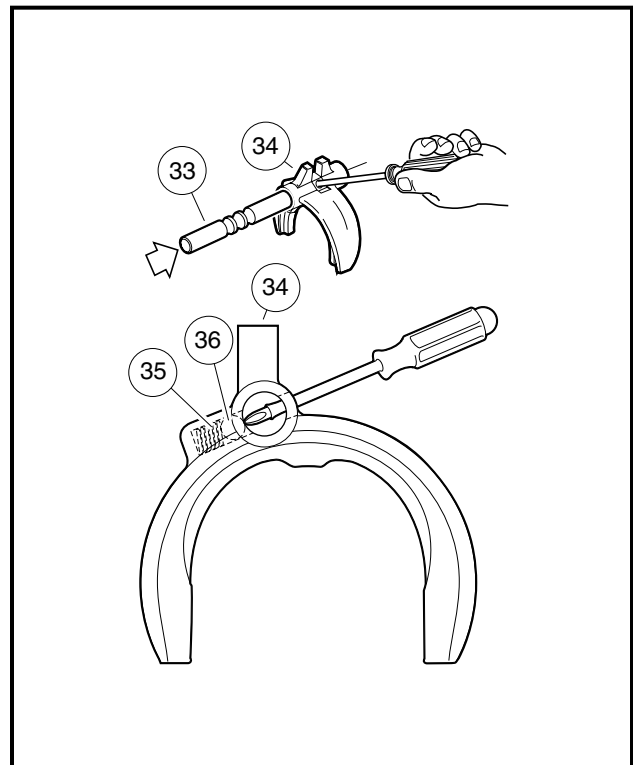

Figure 5-32 Insert Shift Rod Past Ball
2. Use a No. 1 tip phillips screwdriver to press the ball and spring while inserting shift rod (33) into the shifter fork (34) (**Figure 5-32, Page 5-18**). Remove screwdriver when the shift rod is inserted far enough for it to depress the ball and spring, then continue inserting rod until ball is positioned in the middle groove on the rod.